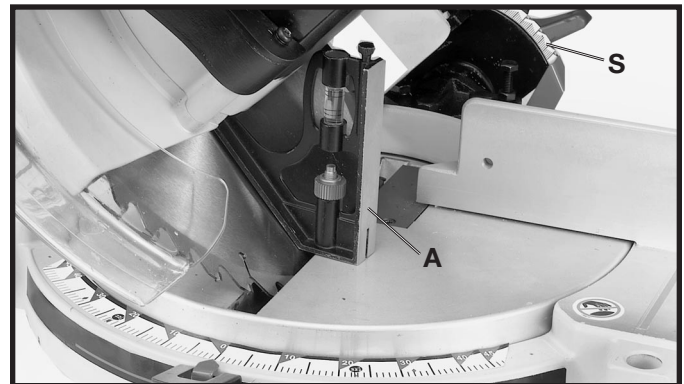
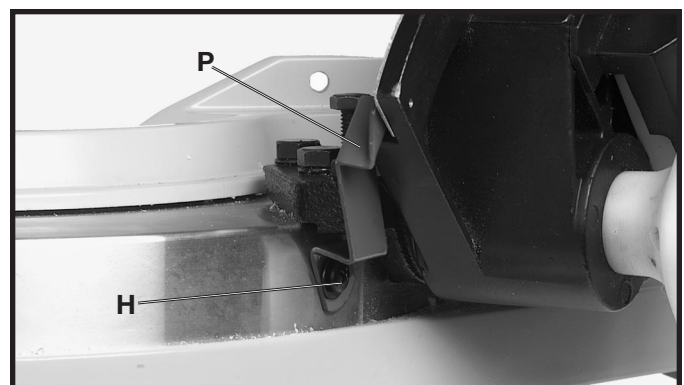

Fig. 28
Fig. 29A
5. Use a combination square (A) Fig. 28, to see if the blade is at 45 degrees to the table, as shown.
7. Check to see that the bevel pointer P Fig. 29A, is pointing to the 45 degree mark on the bevel scale (S) Fig. 28. To adjust the bevel pointer P Fig. 29A, loosen the screw (H) and adjust pointer (P) and tighten screw (H) securely.